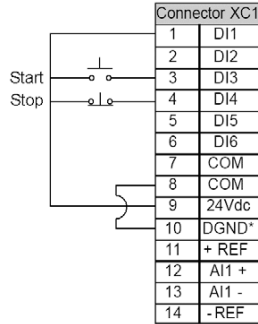

Figure 4 - 3 Wire Start/Stop
**Control Wiring:** Verify there is a jumper between XC1-8 and XC1-10 or inverter will not work. "Start" and "Stop" are momentary push button switches and are connected as shown in Figure 4. "Start" is a N.O. (normally open) contact and "Stop" is a N.C. (normally closed) contact.